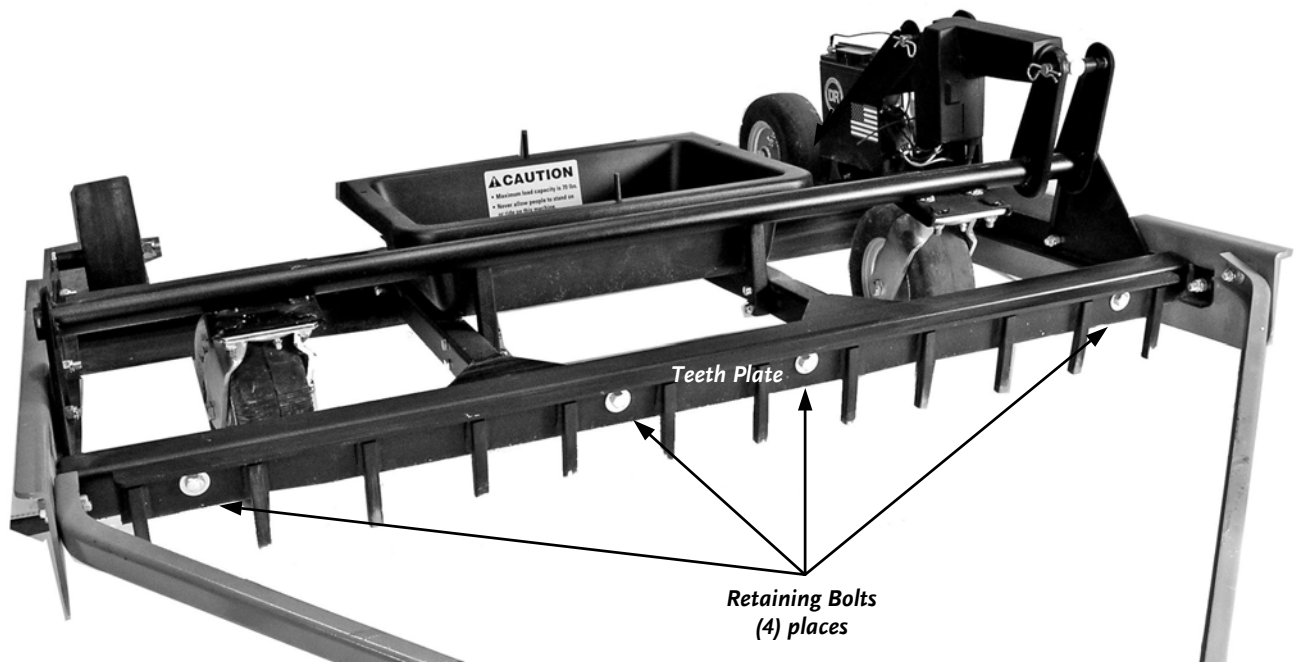

Figure 16
2. Using two (2) 9/16" Wrenches, loosen and remove the Retaining Bolts on the Scarifying Teeth Plate (*Figure 16*).